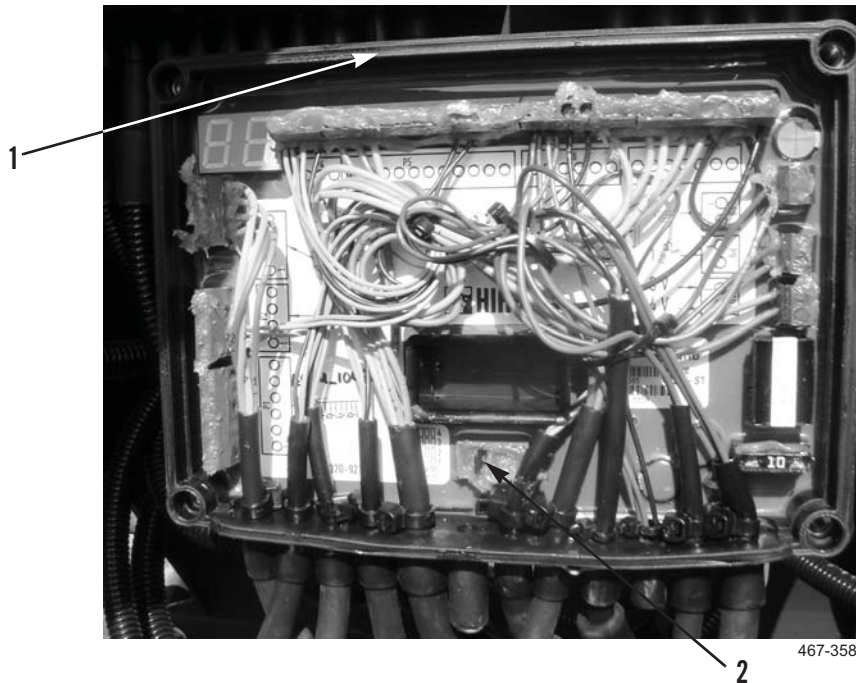

Figure 9. Jumper Removal.
21. At Space 4000 ST box (Figure 9, Item 1), remove jumper (Figure 9, Item 2) from pin four and store in center cavity of Space 4000 ST box.